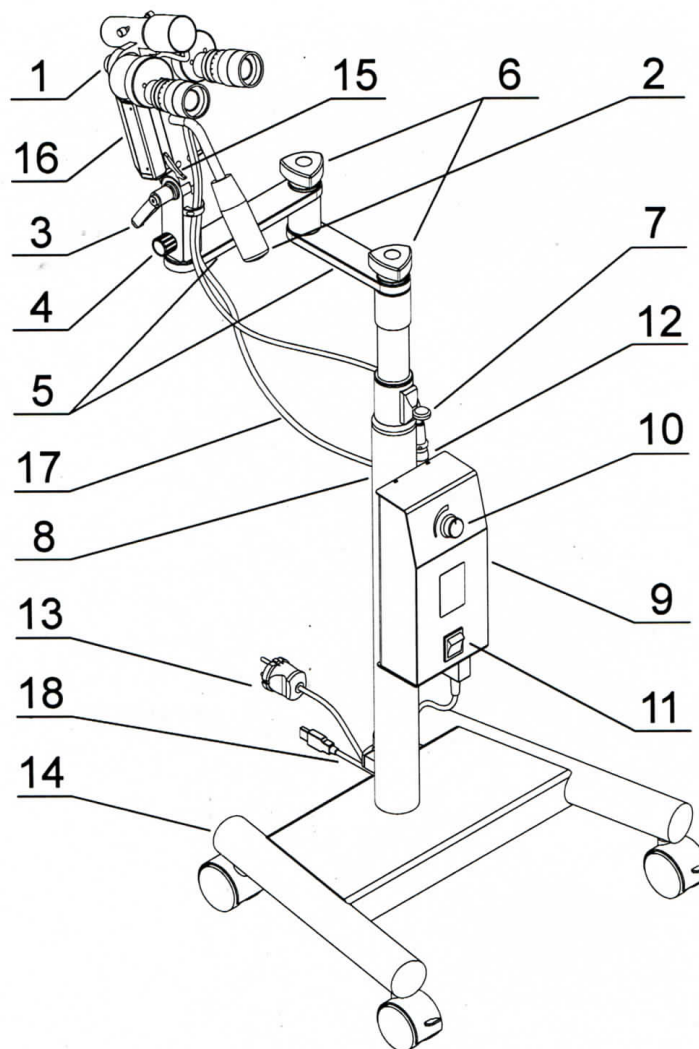

Figure 1 – Overall view of the MK-300 colposcope.
The colposcope (fig. 1) consists of the colposcope head 1, pivoted levers 5, telescopic leg 8, power supply unit 9, and basis 14.
The video system 16 (fig. 1) consists of a prism inverting system, a lens and a digital video camera. The shooting button 15 is situated on the left side of the video system casing.
Illuminator power supply is performed with the help of the colposcope PSU 9 (fig. 1) which contains a switch 11 and light adjustment knob 10. The PSU is protected against overload, overheating and short circuit.
The optical head is moved with the help of the knob 2 (fig. 1). The high degree of freedom of the construction allows exact and fast focusing on the object.
Rotation of the optical head 1 (fig. 1) in the horizontal plane is performed around the axis connecting arms and pivoted levers 5. The optical head is locked from rotation by the knob 4.
- 2) Turn the illuminator of the colposcope on with switch 11 on the PSU (fig.1).
- 5) Adjust the height of the colposcope head position. To do this, push the locking button 7 (fig. 1) and lift (pull down) the colposcope head on the telescopic leg 8. Let the locking button 7 off.
- 6) Hold the handle 2 (fig. 1), loosen the locking handles 6 and put the colposcope head into the position for convenient work, approximately 250 mm over the observed object.
- 9) Obtain necessary object illumination with the brightness adjustment knob 10 (fig. 1).